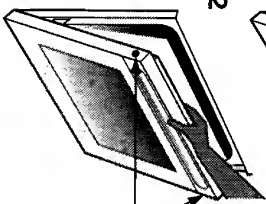

Fig. 2
2. Grip inner door panel and handle/outer glass assembly. Remove two screws and fibre washers (put to one side) as shown in Fig. 2